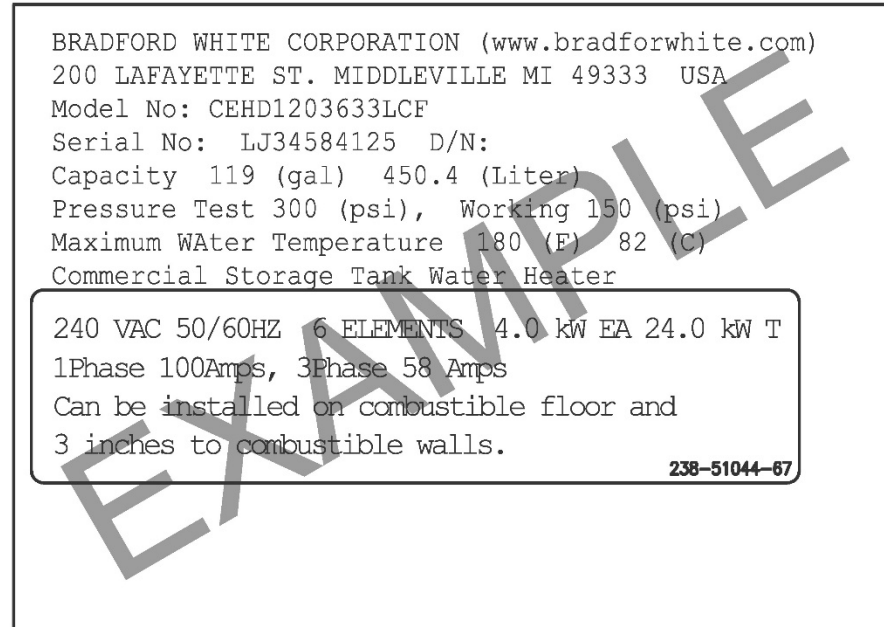

Figure 15. Rating Plate with Overlay
3. Remove the adhesive peel strip and place this label onto the rating plate in such a manner that the new electrical data will appear in place of the data originally marked (see Figure 15).